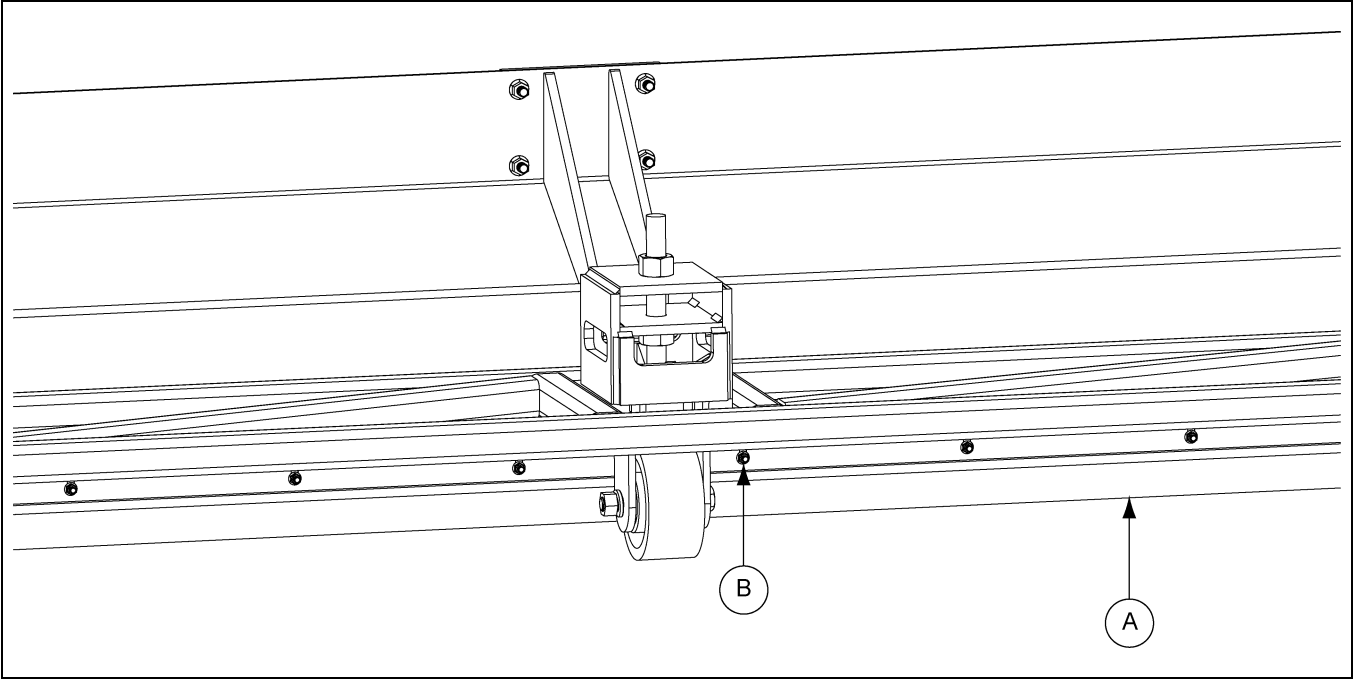

Figure 8K
- 1. Loosen flange nuts (B). *(See Figure 8K.)*
- 2. Slide sweep brush (A) up or down as needed to follow the contour of the floor.
- 3. Install flange nuts (B). Tighten to specifications. *(See Table on Page 21.)*